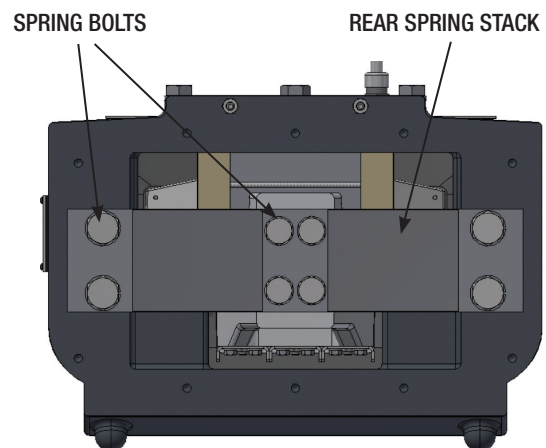

Figure 13
2. Remove rear spring bolts, spring clamps, spacers, and springs. (**See Figure 13**)